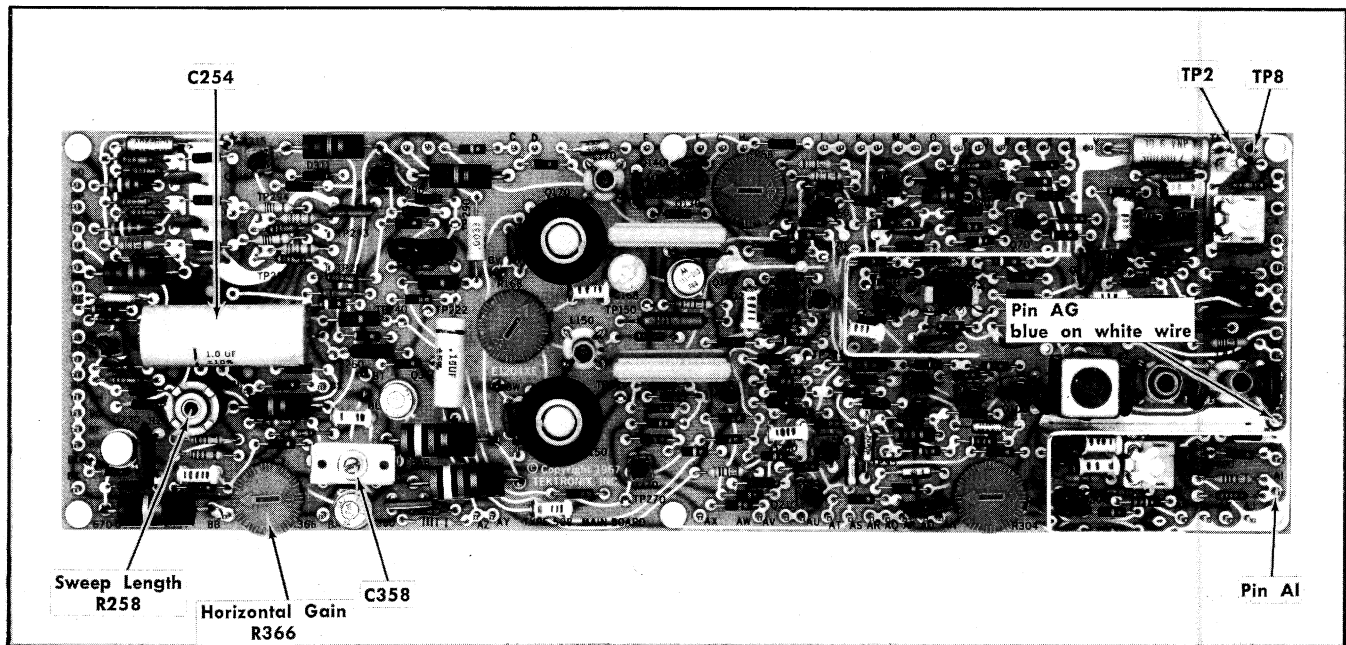

Fig. 5-2. Main board test point and control locations.
c. Short together test points TP2 and TP8 on the main board; see Fig. 5-2.
l. Reconnect the blue on white wire to pin AG on the main board (removed in part d); see Fig. 5-2.
e. CALIBRATION ADJUST—Horizontal Gain control, R366, (see Fig. 5-2) until there is one 1 μ s time-marker per major horizontal graticule division.
7. Adjust/Check Sweep Linearity ①
c. CALIBRATION ADJUST—C358, see Fig. 5-2, until the spacing between the time-markers over the width of the graticule is as close as possible to being even, excluding the first and last major horizontal graticule divisions.
8. Adjust/Check Sweep Length ①
e. CALIBRATION ADJUST—Sweep Length control, R258, (see Fig. 5-2) until a sweep length of 12.1 major horizontal graticule divisions is obtained.